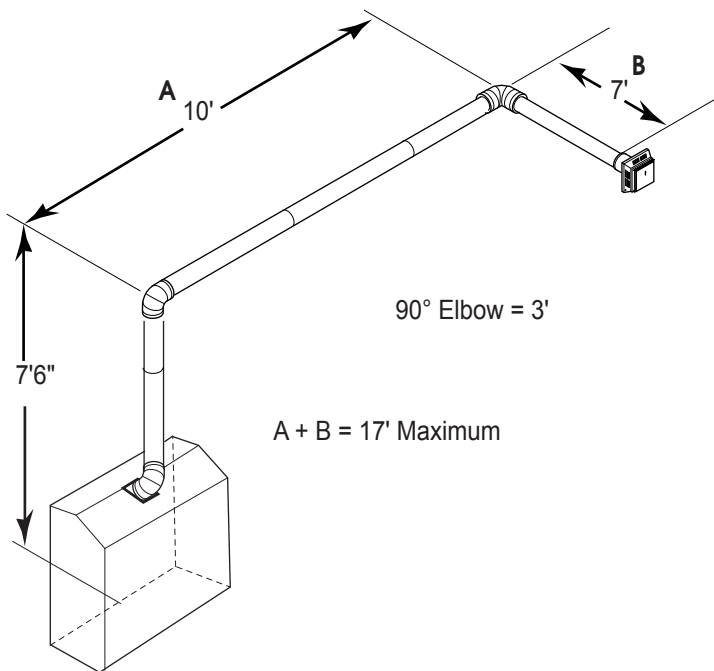

Figure 21 - Maximum Vent Run with Elbows
- If a 90° elbow is used in the horizontal vent run (level height maintained) the horizontal vent length is reduced by 36" (914 mm) (Fig. 21 A and B) This does not apply if the 90° elbows are used to increase or redirect a vertical rise. See Figure 19.
2. Remove soil to a depth of approximately 16" below base of snorkel. Install drain pipe. Install window well (not supplied). Refill hole with 12" of coarse gravel leaving a clearance of approximately 4" below snorkel. *See Figure 21.*